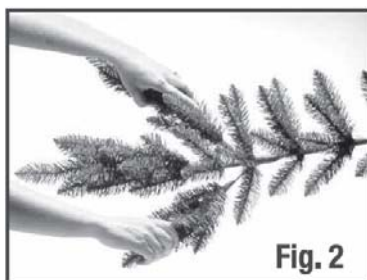

Fig. 2
- 2.Each Branch tip must be shaped to it's proper position to give the tree a natural look. This is done by gently grasping the left and right wing tips and spreading them out away from the centre tip (Figure 2).